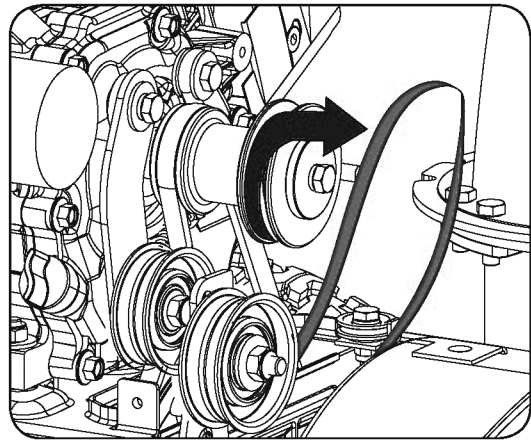

Figure 16b
3. Roll the auger belt off the engine pulley. (See **Figure 16b**)
- a. Roll the auger belt off the engine pulley. (See **Figure 16b**)